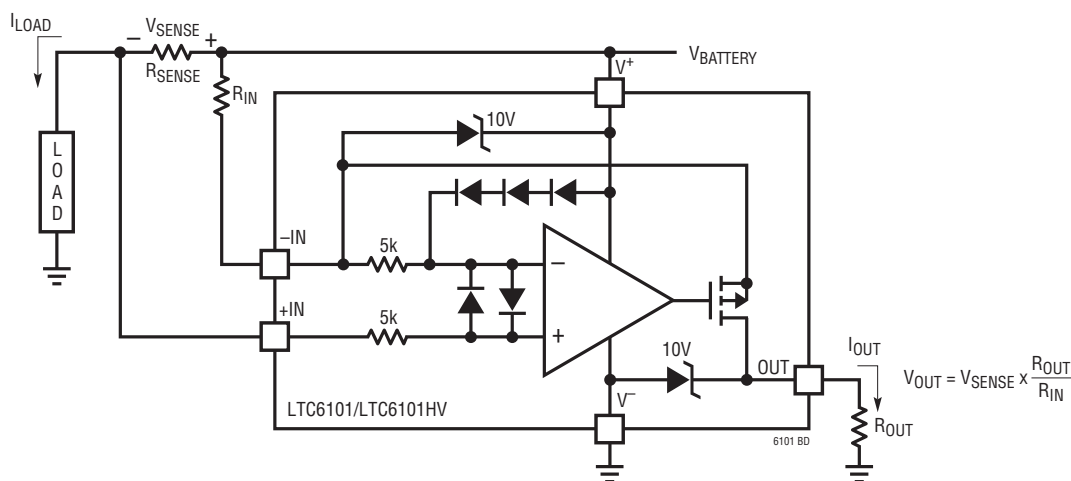

Figure 1. LTC6101/LTC6101HV Block Diagram and Typical Connection
ELECTRICAL CHARACTERISTICS (LTC6101HV) The ● denotes the specifications which apply over the full operating temperature range, otherwise specifications are at $T_A = 25^\circ\text{C}$, $R_{IN} = 100\Omega$, $R_{OUT} = 10k$, $V_{SENSE}^+ = V^+$ (see Figure 1 for details), $5V \leq V_S \leq 100V$ unless otherwise noted.
-IN: The internal sense amplifier will drive IN⁻ to the same potential as IN⁺. A resistor (R_{IN}) tied from V⁺ to IN⁻ sets the output current I_{OUT} = V_{SENSE}/R_{IN}. V_{SENSE} is the voltage developed across the external R_{SENSE} (Figure 1).
The LTC6101 high side current sense amplifier (Figure 1) provides accurate monitoring of current through a user-selected sense resistor. The sense voltage is amplified by a user-selected gain and level shifted from the positive power supply to a ground-referred output. The output signal is analog and may be used as is or processed with an output filter.